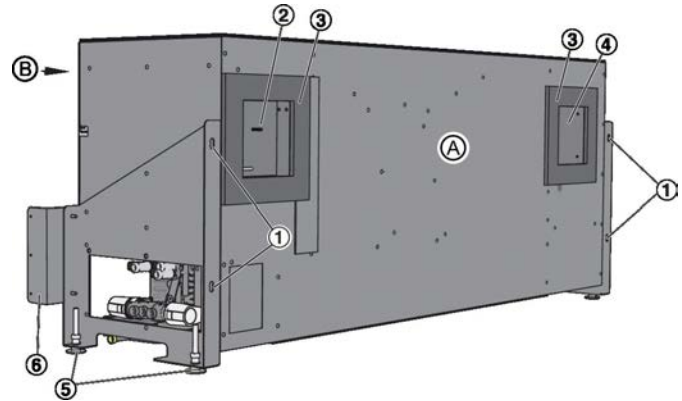

Fig. 3: Installation
1. ▶ Place the unit in such a way that the wall side (Fig. 3/A) faces the wall. The openings for the air (Fig. 3/2 and Fig. 3/4) must be aligned with the prepared openings in the external wall; adjust the feet if necessary.
2. ▶ Use suitable screws ( $\varnothing$  6 mm) for the provided fixing holes (Fig. 3/1) to fix the unit to the external wall.
3. ▶ Adjust the feet (Fig. 3/5), then tighten the nuts.
4. ▶ Protect the ventilation unit with the optional outer casing or by an other outer casing provided by others. Screw-fix the two fixing brackets (Fig. 3/6) to the outer casing.